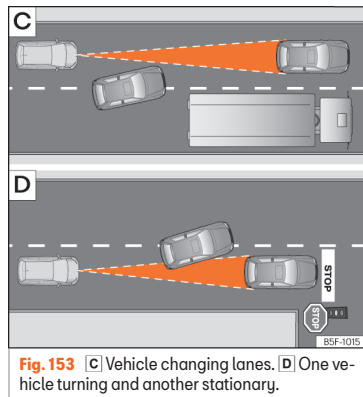

Fig. 153 **C** Vehicle changing lanes. **D** One vehicle turning and another stationary.
- Vehicles that move into your lane, a short distance from your vehicle » **Fig. 153 [C]**.
The ACC does not react to stationary vehicles. If, for example, a vehicle detected by the ACC turns or moves over and there is a stationary vehicle in front of it, the ACC will not react to the second vehicle »» Fig. 153 [D].